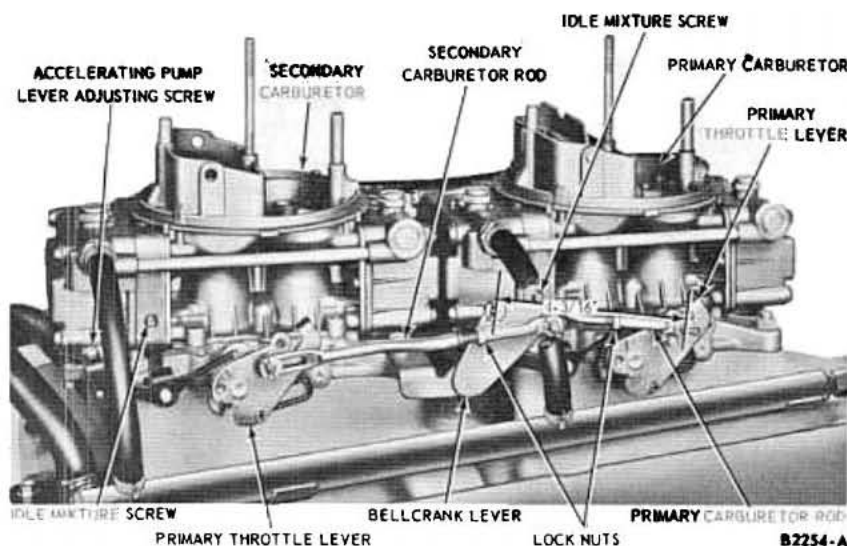

Fig. 23—Holley Dual 4-V Carburetors—Right Side View
1. With the air cleaner removed, disconnect the inter-carburetor linkage at the front and rear carburetor primary throttle levers and at the bellcrank lever (Fig. 23). Disconnect the throttle control cable from the cross-shaft bellcrank lever.
2. Adjust the primary carburetor rod to a $4\frac{3}{16}$ inch length (Fig. 23) from the center line of the hole to the center line of the bent end (operating centers).
on the bellcrank lever and on the upper stud of the front carburetor lever (Fig. 23). Tighten the locknut and install the washers and retainer pins.
5. Install the slotted end of the secondary carburetor rod on the throttle lever of the rear carburetor (Fig. 23).
carburetor rod so that the hole in the rod at the bellcrank lever just engages the stud on the bellcrank lever (Fig. 23). Install the washers and retainer pins and tighten the locknut on the rod.